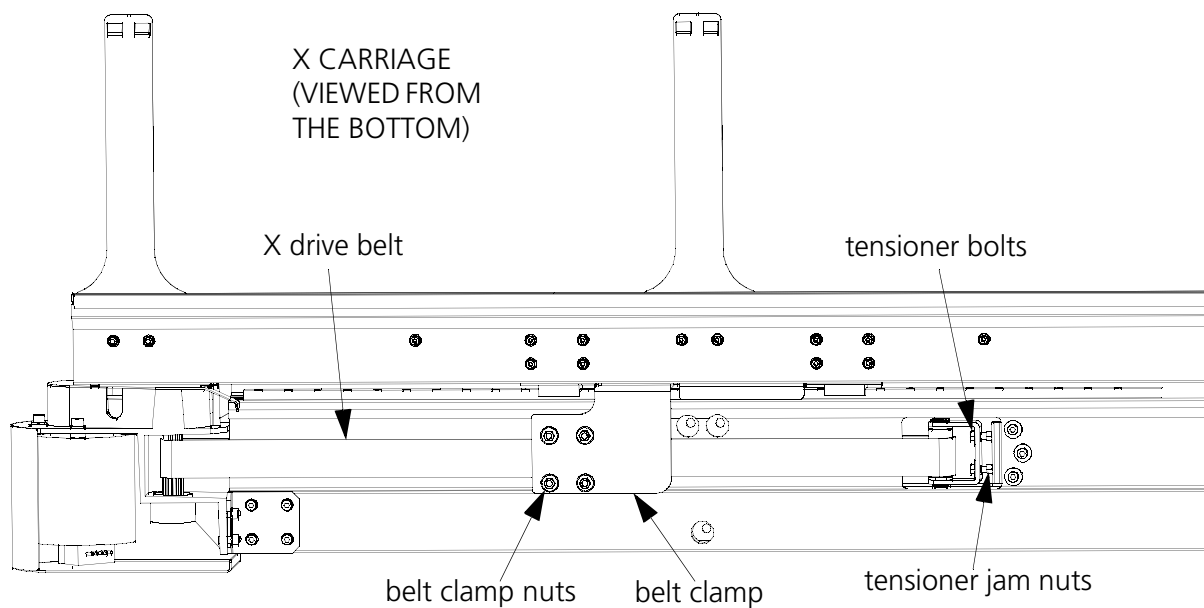

Figure 6-4
3. Refer to Figure 6-4 and loosen the two tensioner jam nuts.